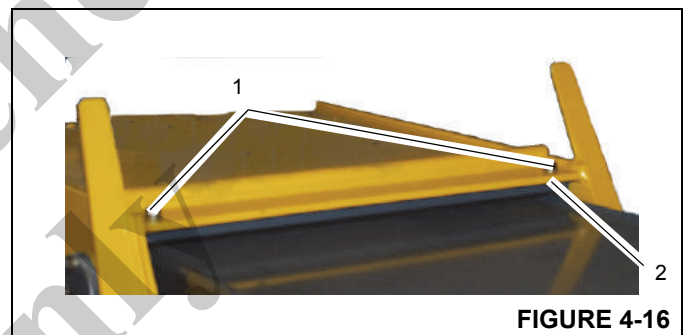

FIGURE 4-16
8. At the top front of the outer mid, remove the capscrews securing the kickback plate (1) (Figure 4-16). Remove the kickback plate.